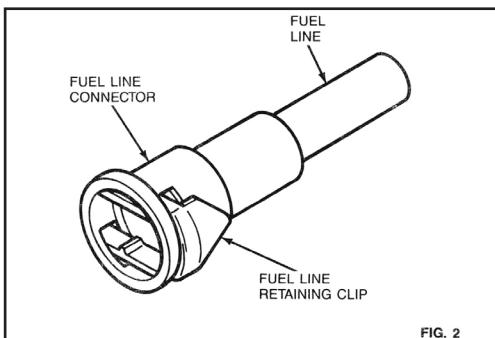

FIG. 2
- B) Referring to Fig. 2, install the new fuel line retaining clips, 5/16" (natural/clear) and 3/8" (black), into their respectively sized fuel line connector with the triangular portion of the clip facing away from the fuel line connector opening.